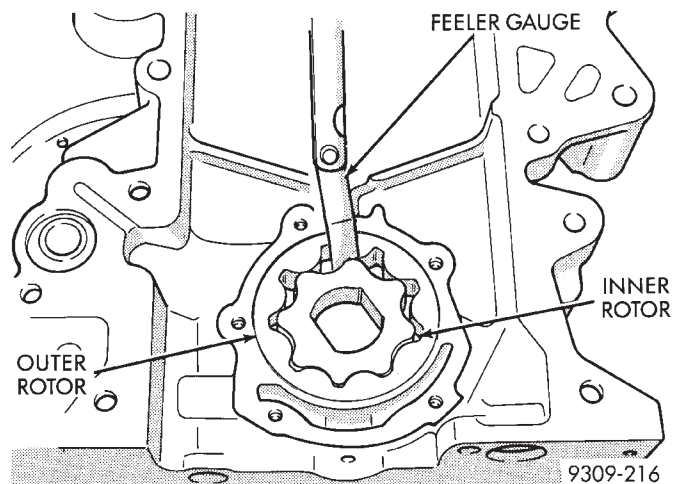

Fig. 11 Measuring Clearance Between Rotors
- (6) Install inner rotor into CCC. If clearance between inner and outer rotors (Fig. 11) is .203mm (.008 inch) or more, replace both rotors.